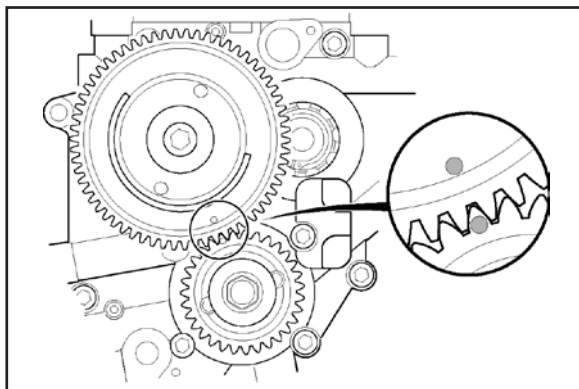

Figure 4
- K- If necessary, place transmission in high gear and turn rear wheel to rotate engine until timing mark on crankshaft gear is in position. **See Figure 4 below left.**
- L- Place drive gear key in rear camshaft. Position cam drive gear on rear camshaft and key with timing mark outward. Rotate drive gear and camshafts until drive gear and crankshaft gear timing marks are aligned. **See Figure 4, below left.**